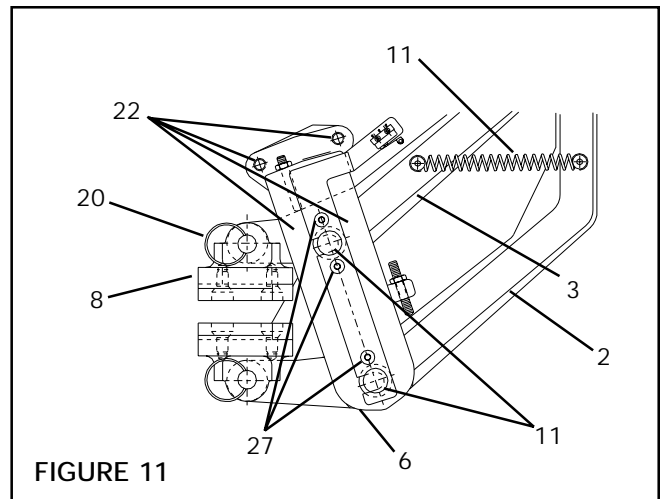

FIGURE 11
3. Loosen Socket Head Cap Screws (Items 22) and remove Brake assemblies from the Upper and Lower Mounting Brackets (Item 4) (See Fig. 11).
4. Remove Extension Spring (Item 7) (See Fig. 11).
5. Remove Detent Pins (Item 20) and Brake Shoe Assembly (Item 8) (See Fig. 11).
6. Remove Cap Screws (Item 27) and Pin Retaining Plate (Item 6) (See Fig. 11).
7. Remove Pivot Pins (Item 11) and the Upper and Lower Brake Arms (Items 2 & 3) from the Main Frame (Item 1) (See Fig. 11).
8. Press the worn Sleeve Bearings (Item (18) out of the Upper and Lower Brake Arms (Items 2 & 3).